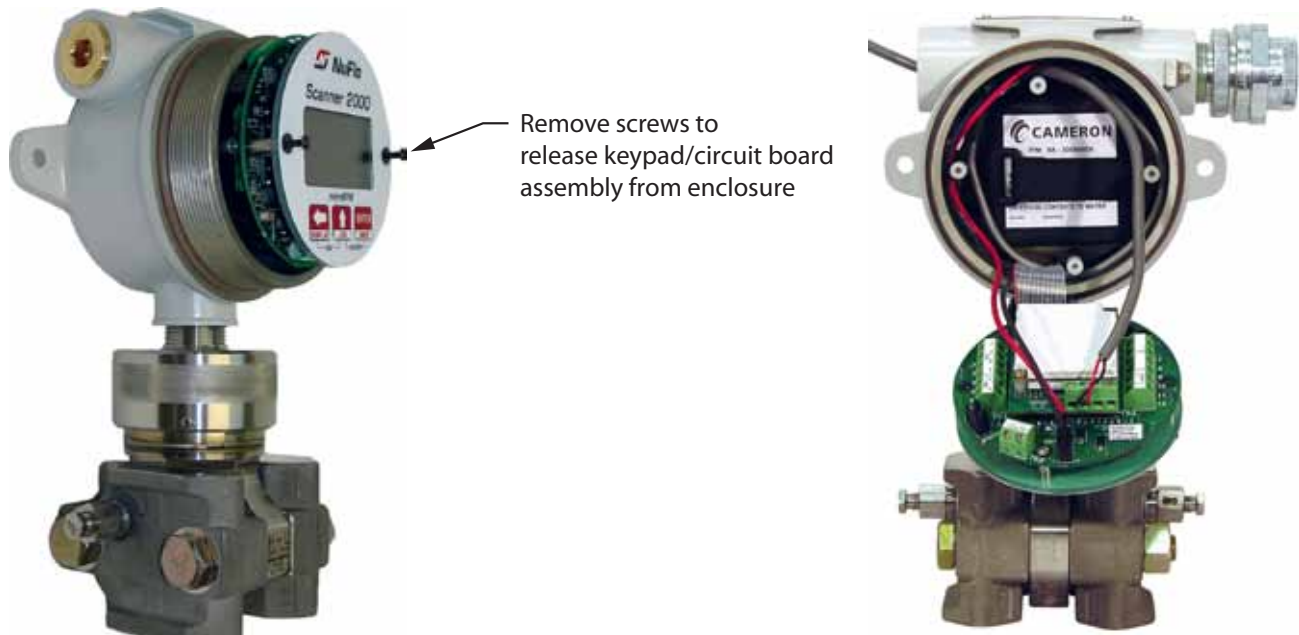

Figure 6.1—Removal of the battery pack from the enclosure
2. Using a small standard blade screwdriver, remove the two #4-40 × 7/8" screws located to the right and left side of the display (Figure 6.1).
5. Loosen the Velcro strap, disconnect the battery from the J1 connector on the main board, and remove the spent battery pack from the enclosure (Figure 6.1).
2. Using a small standard blade screwdriver, remove the two #4-40 × 7/8" screws located to the right and left side of the display (Figure 6.1, page 72).